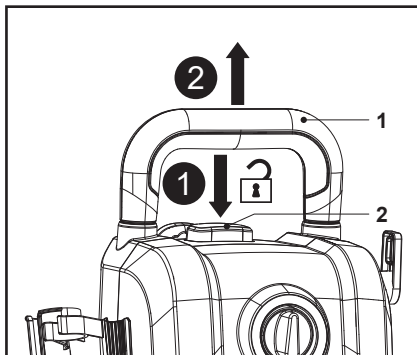

Fig. 15
1. Press and hold the handle lock button (2), then pull the transport handle (1) all the way to stop (Fig. 15).